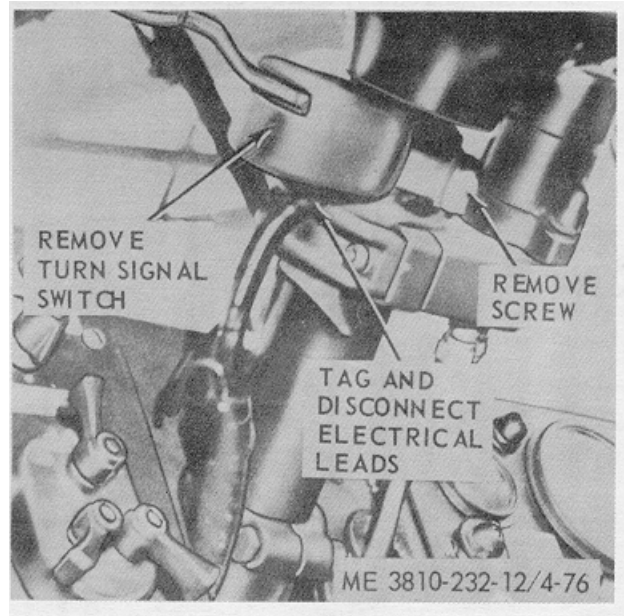

Figure 4-76. Turn signal switch, removal and installation.
a. Removal. Remove turn signal switch as illustrated in figure 4-76.
b. Installation. Install turn signal switch as illustrated in figure 4-76.